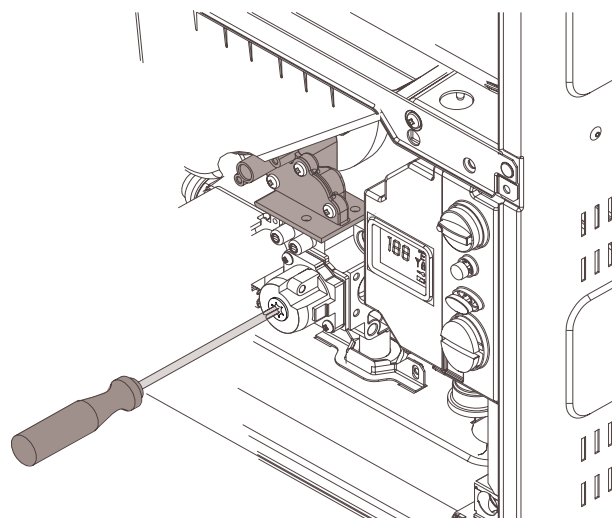

Fig. 45
- ▶ Remove yellow painted #40 Torx cover from the front of the gas valve. (Fig. 45) A plastic #40 Torx screw will be revealed.